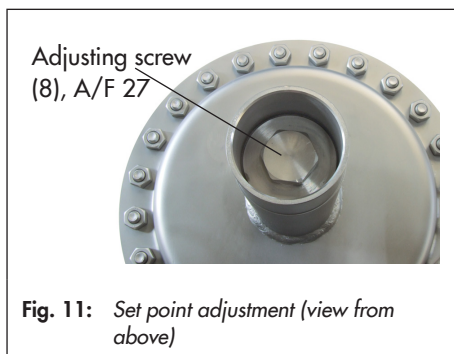

Fig. 11: Set point adjustment (view from above)
Adjust the required set point (see Fig. 11) by tensioning the set point springs (7) at the set point adjuster (8) using a suitable socket wrench (width across flats 27).
1. Remove the cap (12).
2. Use a socket wrench (A/F 27) to turn the adjusting screw (8).